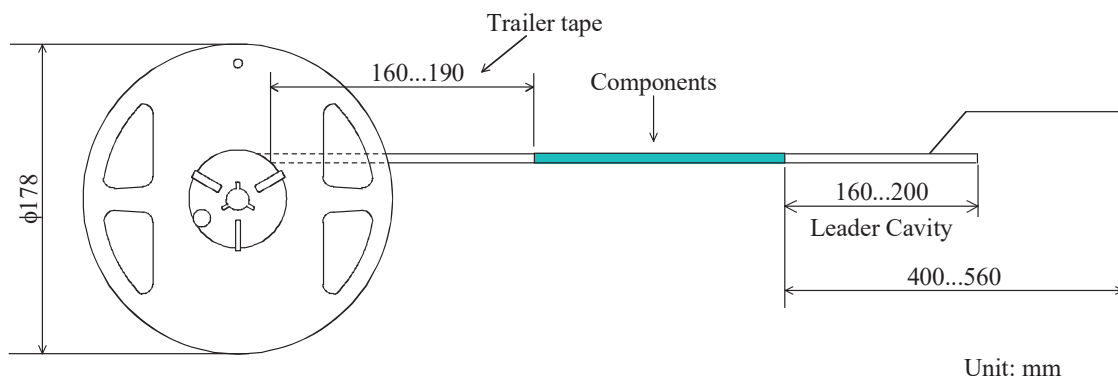

Figure. 1
- 3) Trailer tape shall be 160...190 mm and leader cavity shall be 80...120 mm (refer to Figure. 1.)